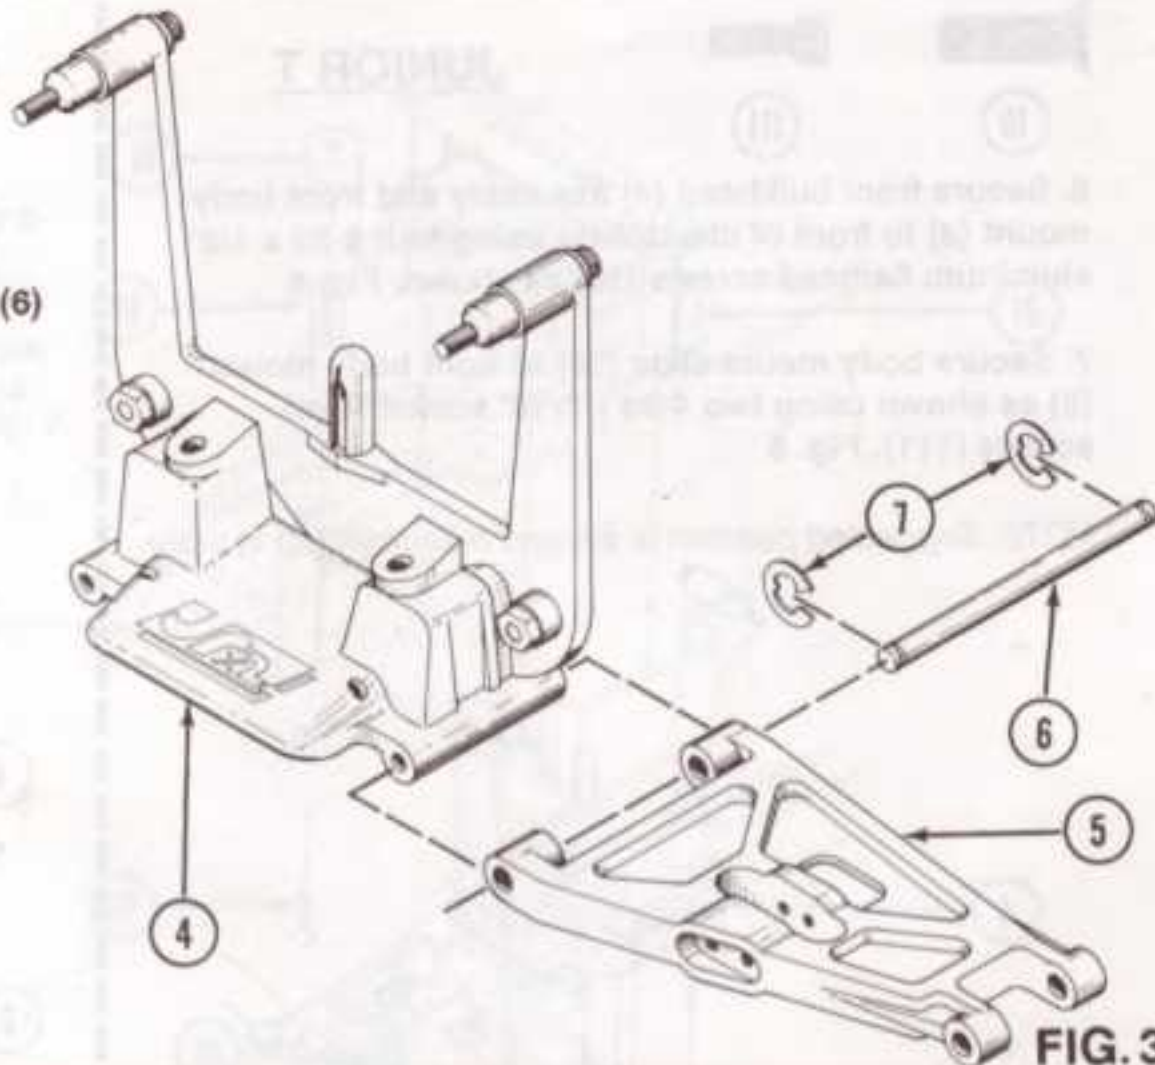

FIG. 3
4. Assemble front A-arms (5) to front bulkhead (4) using 1/8" x 1.650 hinge pins (6) and secure the pins (6) with four 1/8" E-clips (7). Fig. 3.